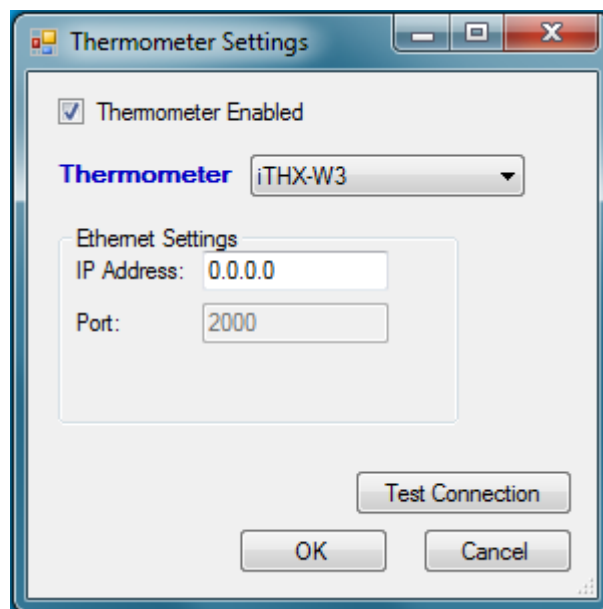

Figure 4.10: The thermometer settings window.
- As indicated in Fig. 4.10, only the IP Address and Port have to be provided.